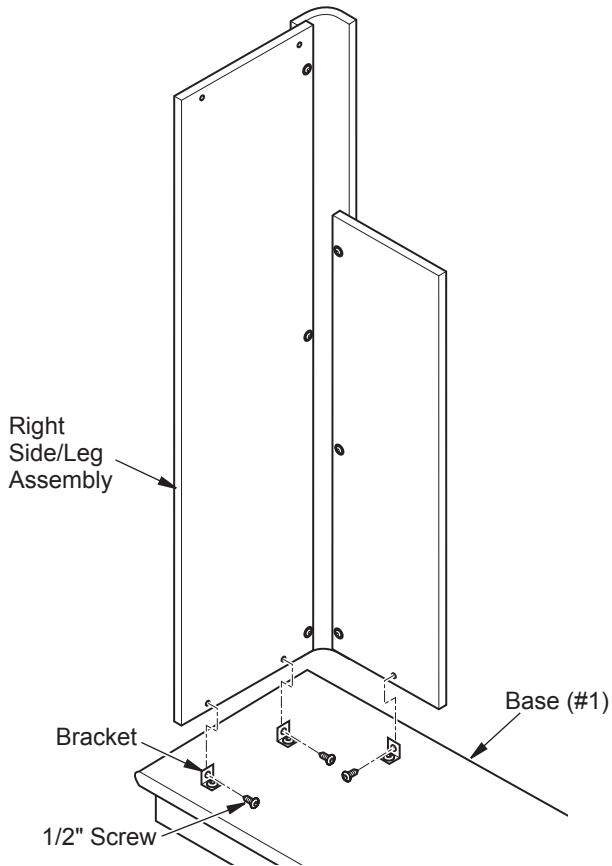

Figure 2 - Leg Assembly to Base
3. Attach 6 brackets to base (#1) at threaded hole locations using $1\frac{1}{2}$ " screws leaving screws loose. Face brackets toward outside (see Figure 2).